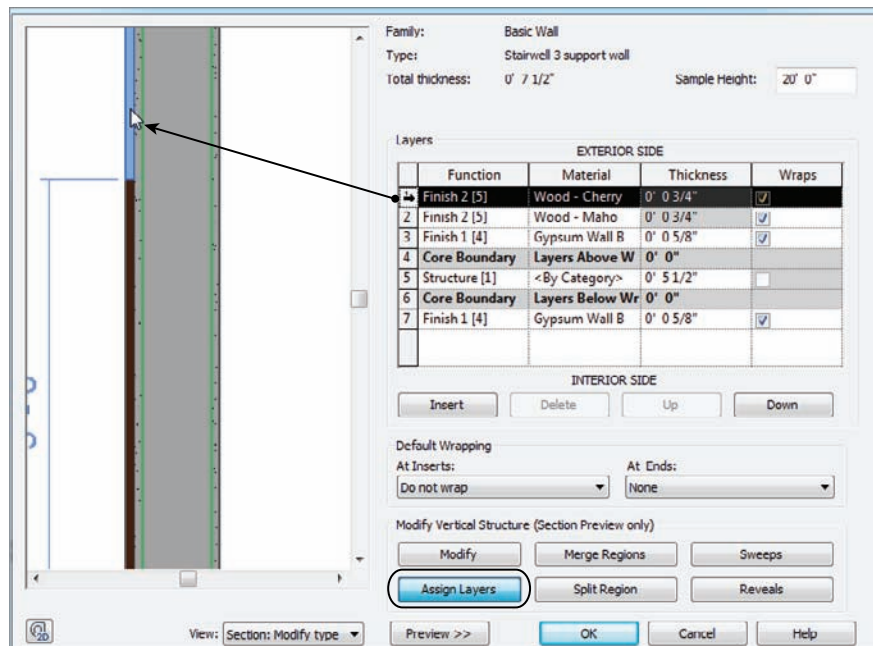

FIGURE 16.7 Assigning the cherry layer to the upper portion of the wall
1. Pick the Layer 1 row (Wood - Cherry), as shown in Figure 16.7.
2. Click the Assign Layers button (see Figure 16.7).
3. Move your cursor over the upper region of the plywood layer, and pick. Cherry is assigned to the upper portion of the wall, and the thicknesses are set to 3/4" (19mm) (see Figure 16.7).